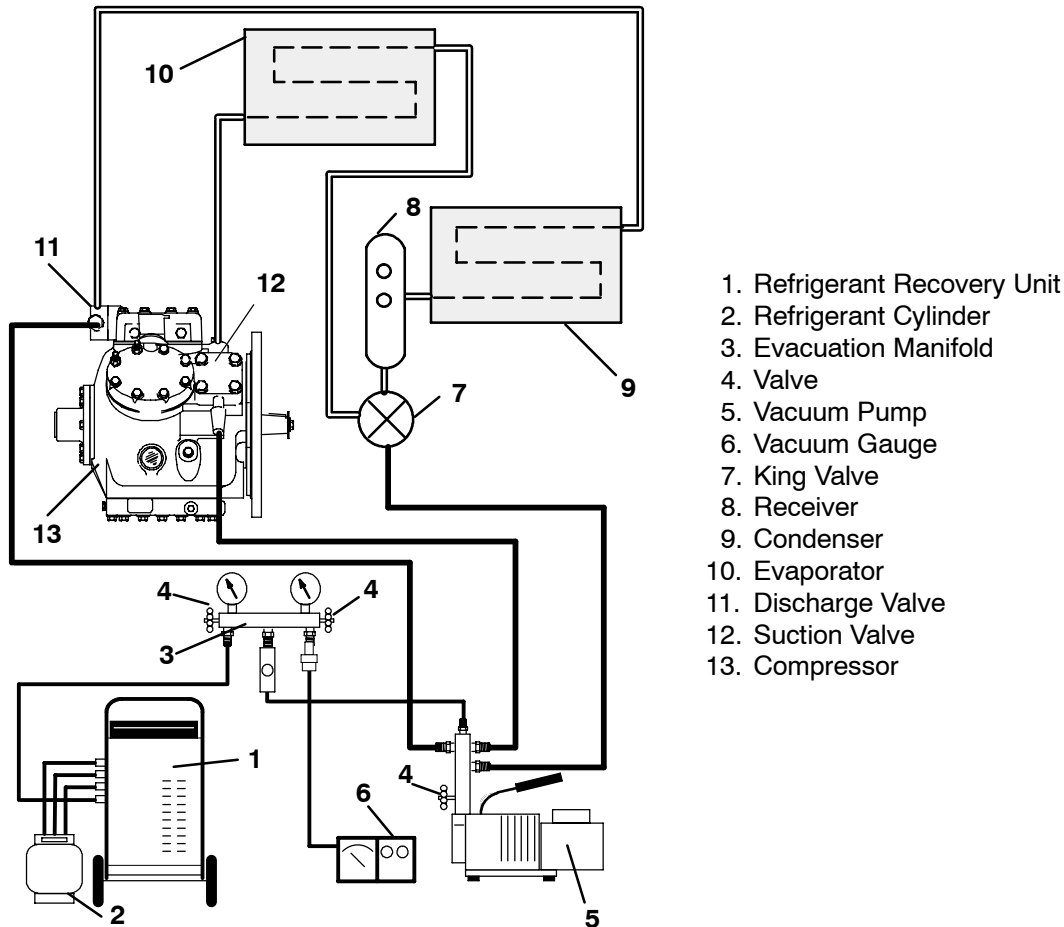

Figure 8-14. Vacuum Pump Connection
- b. The recommended method to evacuate and dehydrate the system is to connect three evacuation hoses (Do not use standard service hoses, as they are not suited for evacuation purposes.) as shown in Figure 8-14 to the vacuum pump and refrigeration unit. Also, as shown, connect a evacuation manifold, with evacuation hoses only, to the vacuum pump, electronic vacuum gauge, and refrigerant recovery system.